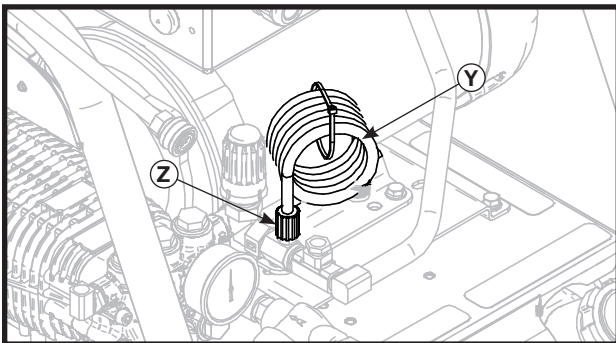

Figure 18
2. Insert the soap filter and hose (Y on figure 18) in a liquid soap container.
3. Rate of injected soap can be adjusted using the soap valve (Z on figure 18).